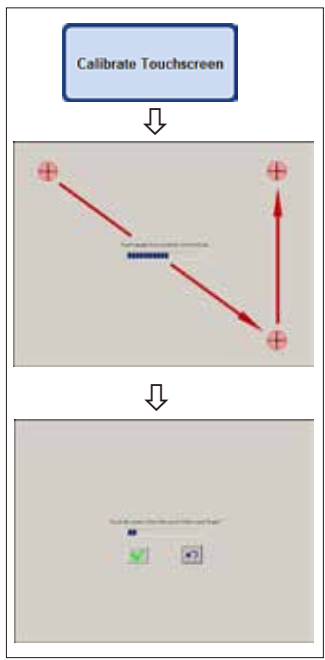

Fig. 78
### Calibrating the touchscreen (Fig. 78)
- Touch the red circle in the middle of the screen (three times in total), starting in the upper-left corner (Fig. 78, top).
- Then touch any point on the screen and check that the cursor follows the movement (Fig 78, bottom).